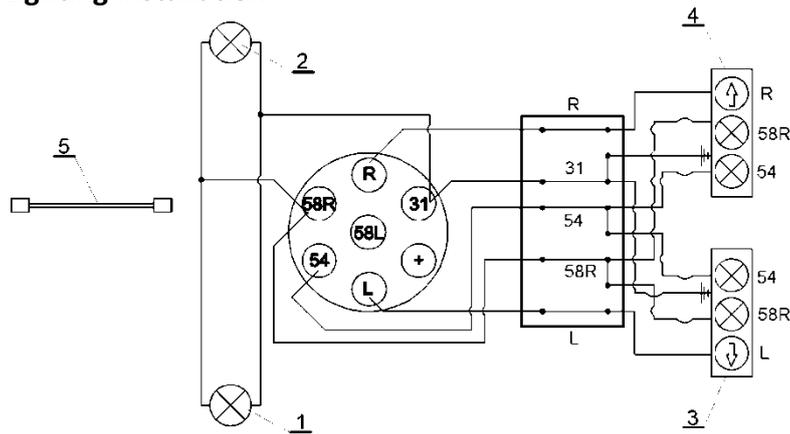

Fig. 20 Lighting Installation diagram
The electrical installation in the FENIX seed drill is of fixed type, provided with two rear lamp units. A connection cable (5) is used to connect the installation with the tractor installation. The installation diagram is connected according to Fig.20. Before leaving for highways, check the correctness of the electrical installation every time.